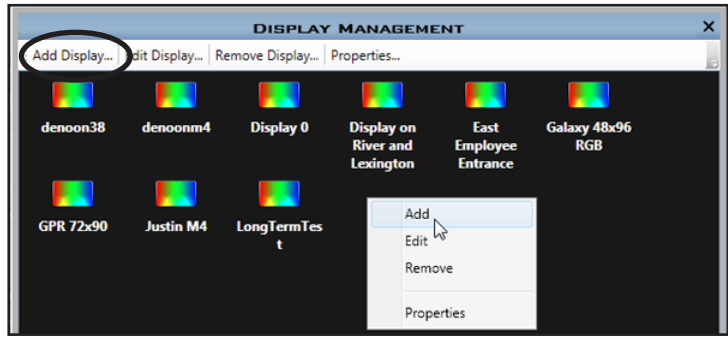

Figure 11: Configure a New Display
3. Click **Add Display...** from the **Display Management** window. Or right-click in the **Display Management** window and select **Add Display...**, as shown in **Figure 11**.